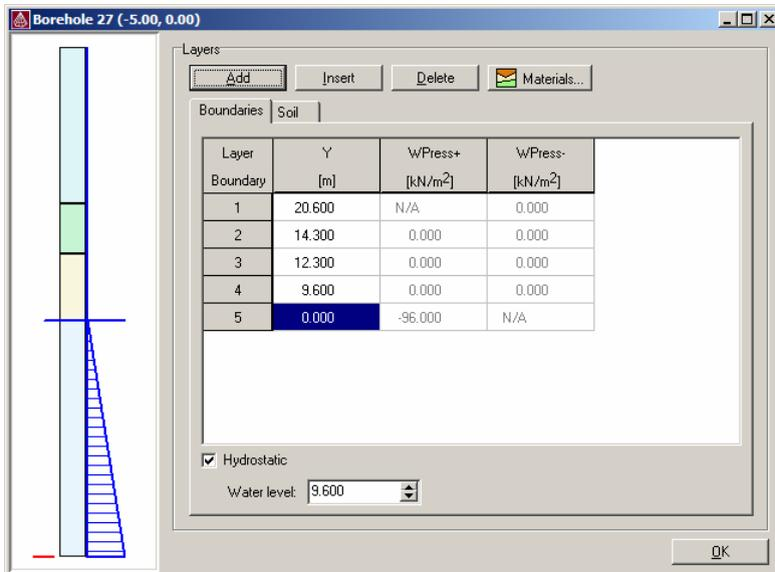

Figure 4.3 The Borehole window
- In the same manner, change the other layer boundaries to 14.30 m, 12.30 m, 9.6 m and 0.0 m. The borehole information is shown in Figure 4.3.